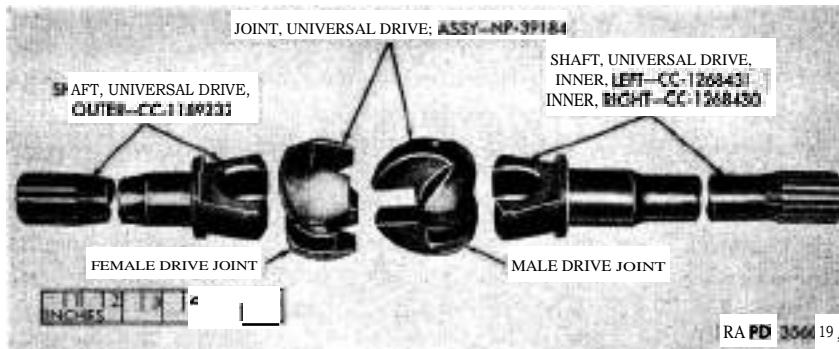
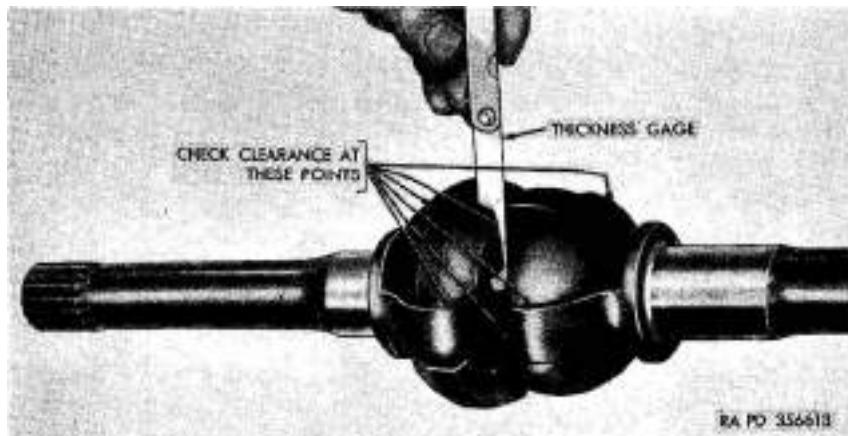

Figure 64. Universal drive assembly.
Figure 65. Checking 'universal drive joint assembly clearance with thickness gage.'
- (1) Inspect all shaft splines, bearing surfaces, and oil seal contact surfaces. If there is evidence of twisting, scoring, wear, cracks, or chipping, the shafts must be replaced. Measure diameter of inner and outer universal drive shafts at bearing and oil seal contact surfaces with a micrometer. If the wear limits exceed that specified in paragraph 342, replace drive shafts.
- (2) Inspect universal drive joint assemblies for wear, scoring, chipping, or cracks. If the parts appear satisfactory for further service, assemble universal drive joint in the sequence shown in figure 64 and check the clearance between parts (fig. 65). The clearance at any of the checking points should not exceed wear limits indicated in paragraph 342. If clearance exceeds specified wear limit, replace the joints or shafts as required.
- (1) Apply a small quantity of specified lubricant (refer to TM 9-840) on the various universal drive joint parts. Place male joints on universal drive inner shafts (*fig. 64*) and install inner shafts and joints in the front axle housing assembly.
- (2) Place female joints on universal drive outer shafts and insert outer shafts in steering knuckles. Engage female joints with male joints ; then position steering knuckles on steering knuckle flange assemblies (flat portion of steering knuckle to correspond with top of steering knuckle flange). Use a plastic hammer to drive steering knuckles in flanges while maintaining proper alinement with screw holes.